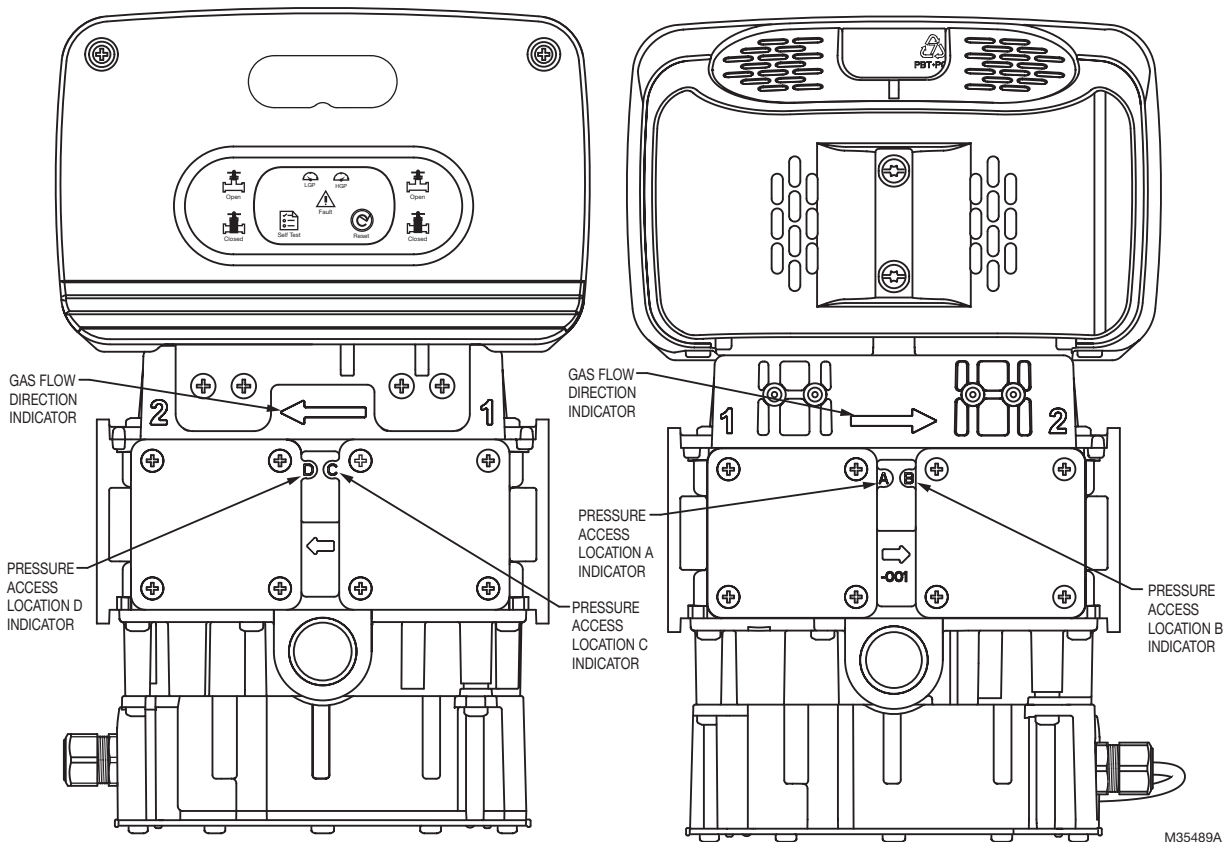

Fig. 15: Valve body and pressure port covers.
Pressure access locations A, B C and D each contain three (3) pressure access ports with plugs, which access pressure measurement locations at various points in the valve anatomy and are used for various purposes. The pressure access ports on locations A and C under valve seat V1 are identical. The same is true for pressure access ports on locations B and D under valve seat V2. Refer to Table 5 and Fig. 15 and Fig. 18.
For shipment from the factory, covers are added to the four pressure access locations (A, B, C and D) to prevent damage or entry of foreign objects. Refer to Fig. 15. Before mounting a Pressure Module in the field or using a port for pressure measurement, the appropriate cover will need to be removed. Follow the detailed directions provided in the associated accessory installation instructions.